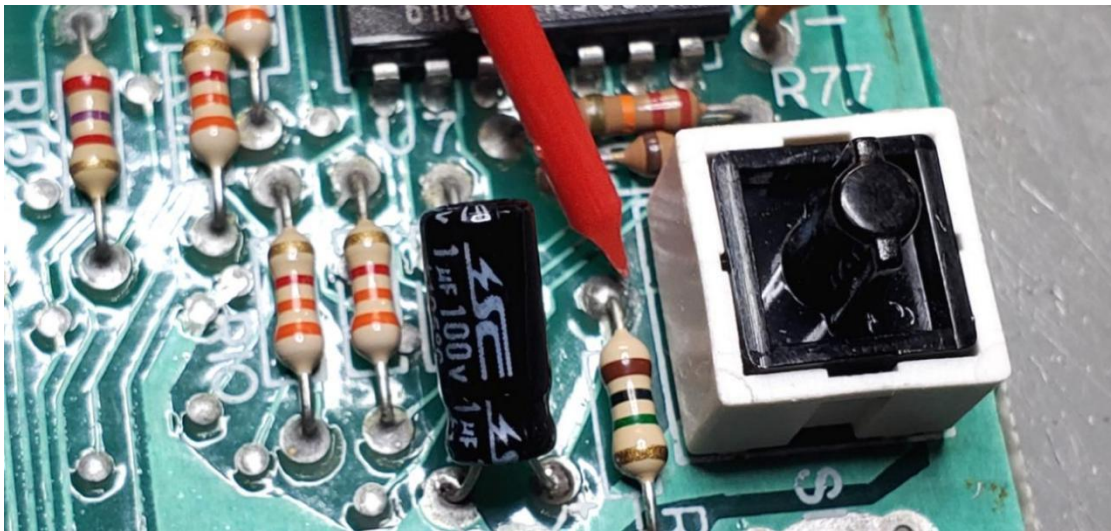
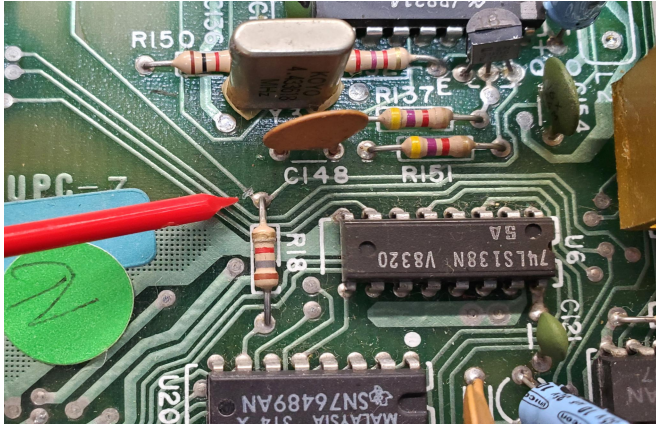

Figure 1: Reset line cut
Figure 2: Audio line, cut trace at top left side of R18
Step 1: Using an X-Acto knife, very carefully cut the following two PCB traces. See **Figure 1** for reset line cut and **Figure 2** for audio line cut.